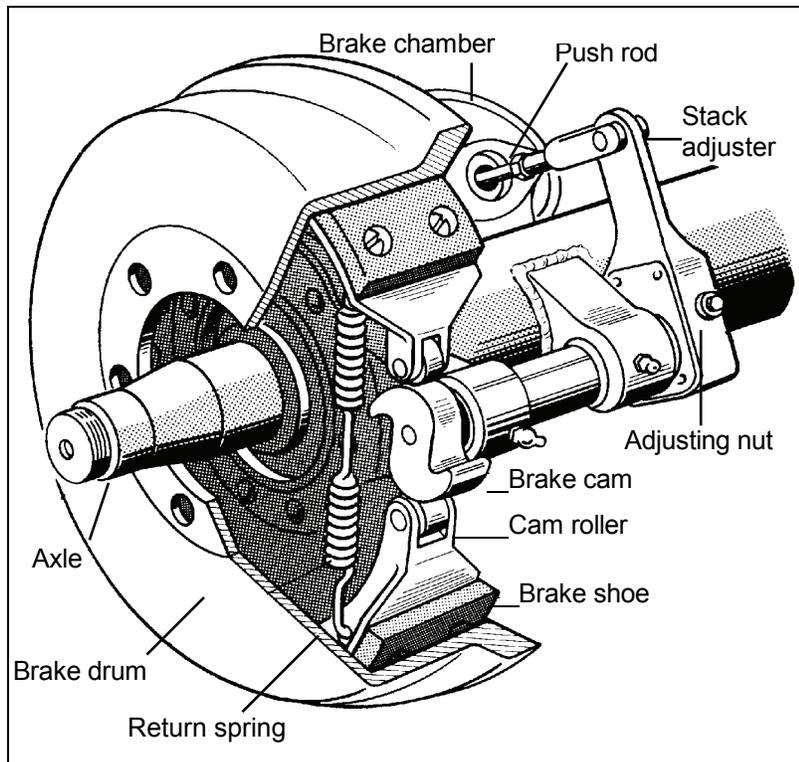

Figure 5-2
the S-cam drum brake, shown in Figure 5-2. The parts of the brake are discussed below:
**S-cam Brakes.** When you push the brake pedal, air is let into each brake chamber (see Figure 5-2). Air pressure pushes the rod out, moving the slack adjuster, thus twisting the brake cam shaft. This turns the s-cam (so called because it is shaped like the letter "S"). The s-cam forces the brake shoes away from one another and presses them against the inside of the brake drum. When you release the brake pedal, the s-cam rotates back and a spring pulls the brake shoes away from the drum, letting the wheels roll freely again.